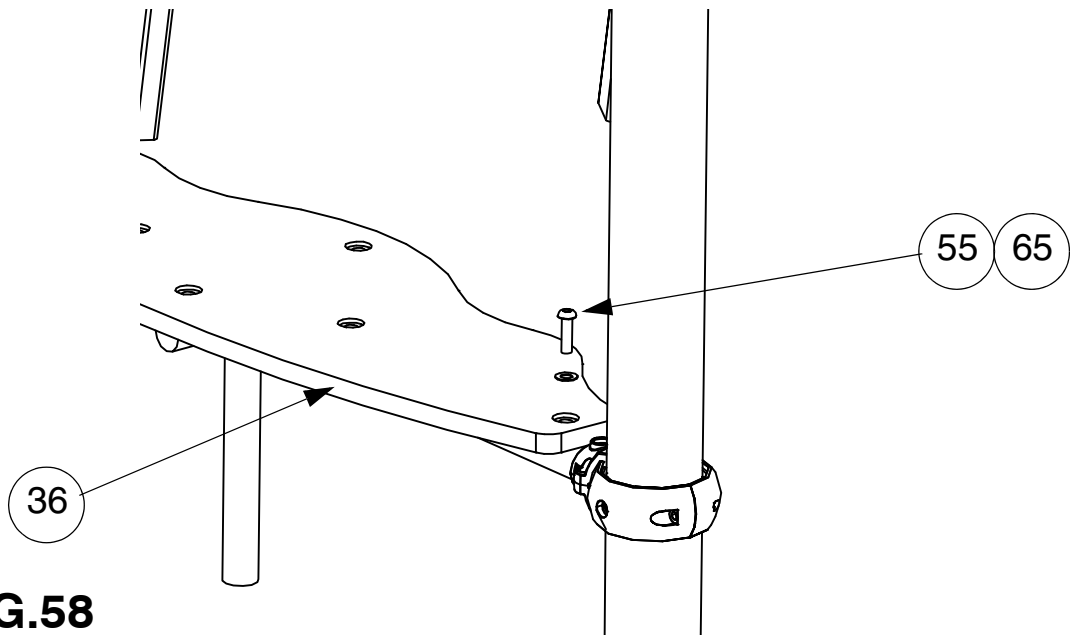

FIG.58
64) Assemble Seat (item 36) into position as shown on the Seat Mounting Frame using 6 off M10 x 35 Resistorx bolts (item 55) and M10 Washers (item 65). See FIG.58.